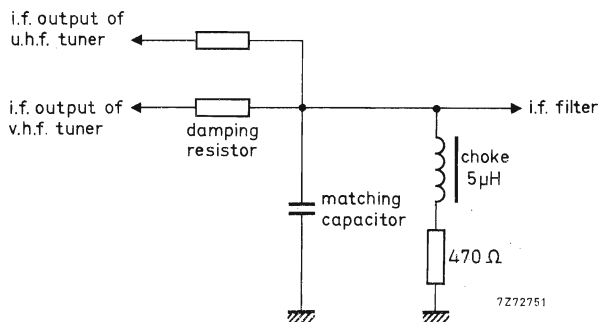

Fig. 12.
The tuner needs a d.c. path from the i.f. output terminal (T) to earth, preferably via a choke of approx. $5\ \mu\text{H}$ outside the tuner (Fig. 12). Where the tuner is used in combination with a u.h.f. tuner, this choke can be common for both tuners; a resistor in series with the choke can make ineffective the i.f. output circuit of the switched off tuner. For damping the i.f. output circuit and matching the i.f. output impedance of the tuner to the i.f. amplifier, a series resistor and a parallel capacitor as shown in Fig. 12 should be used. (During v.h.f. operation the voltage across the $470\ \Omega$ resistor is 1 to 1,2 V).